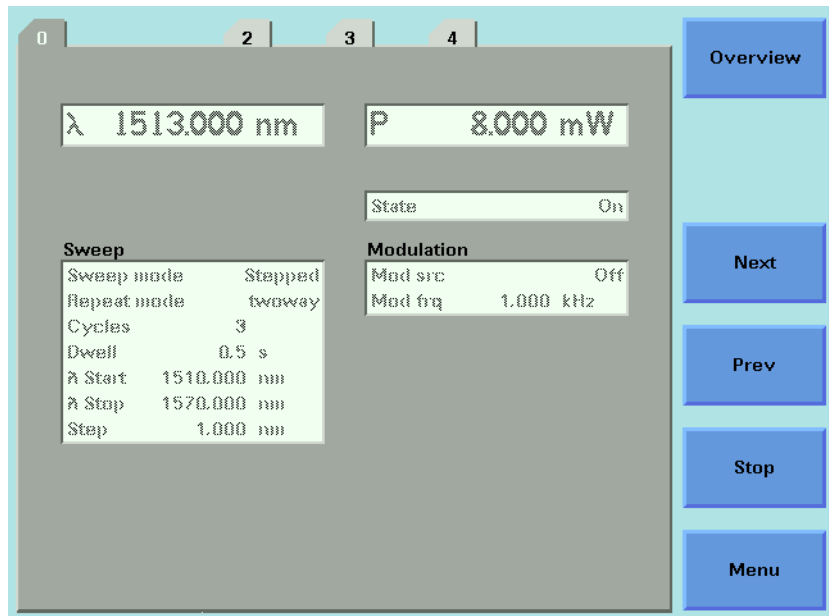

Figure 88 Performing a Manual Sweep
- 6 Press [Run Swp] to start the sweep. The screen in Figure 88 on page -154 then appears.